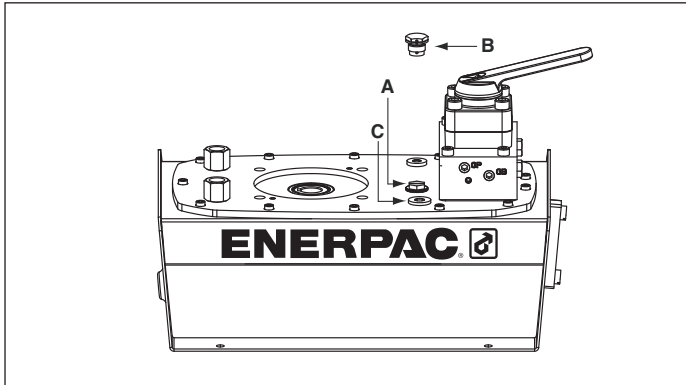
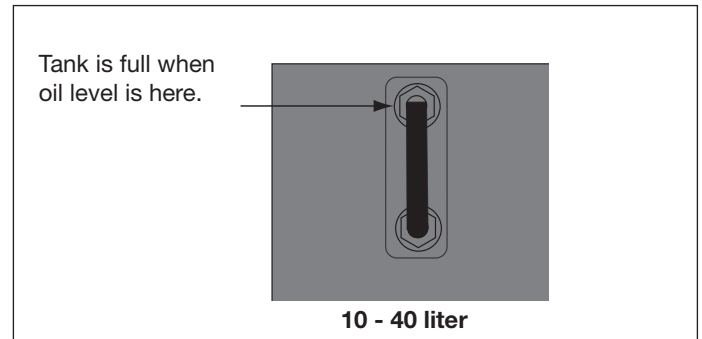

Figure 2, ZG Breather Installation
Figure 4
4.1 Reservoir Breather Cap (See Figure 2)
Check the oil level of the pump prior to start-up, if necessary add oil by removing the SAE #10 plug from the cover plate (see Fig. 2). The reservoir is full when the oil level reaches the top of the sight glass. (Fig. 4).
Check the oil level of the pump prior to start-up, and add oil, if necessary, by removing the fill port cap. Always be sure cylinders are fully retracted before adding fluid to the reservoir. See Figure 2.
6. Fill the reservoir with clean Enerpac hydraulic oil. The reservoir is full when oil level is in middle of the sight gauge (see figure 4).